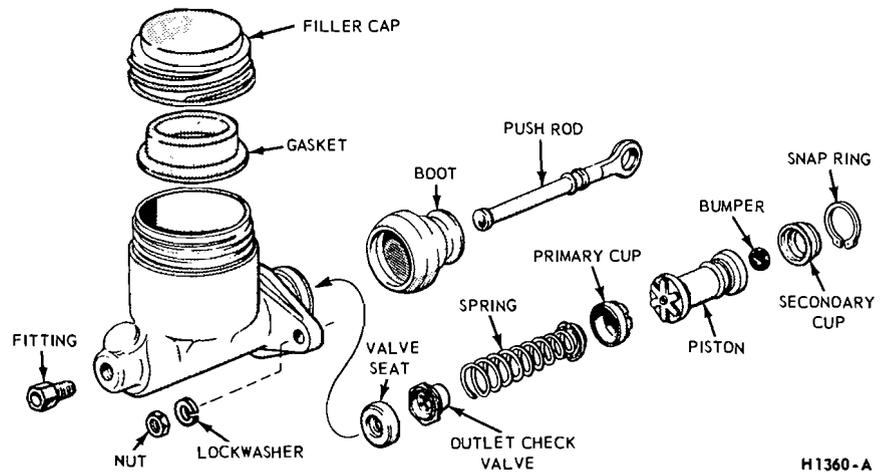

FIG. 30—Master Cylinder With Standard Brake System
3. When disassembling a master cylinder used with the standard brake system, remove the piston assembly, cup, spring, check valve, and valve seat from the cylinder bore (Fig. 30).
3. When assembling a master cylinder used with the standard brake system, install the valve seat, check valve, spring, cup, and piston assembly in the cylinder bore (Fig. 30).
3. A leaf-type valve is riveted to the front end of the piston in a master cylinder used with the standard brake system (Fig. 30). If this valve is loose or has moved so that the piston ports are open, replace the piston.